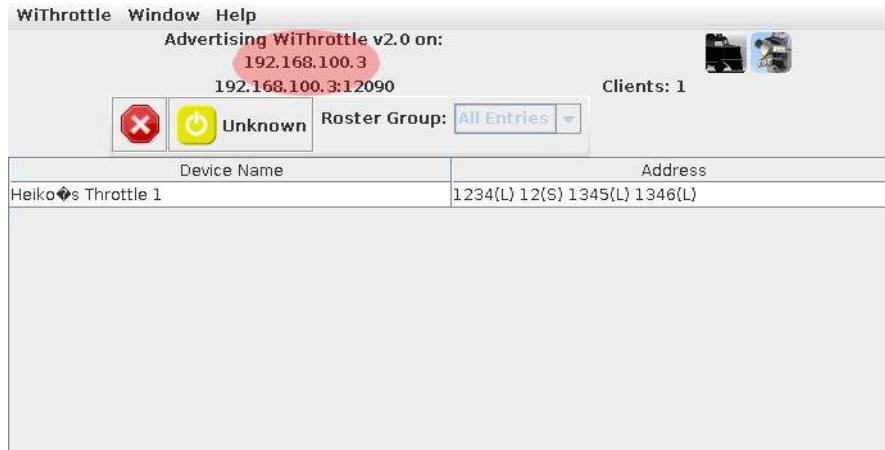

Figure 2: Screenshot of wiThrottle screen showing one throttle connected
In the second case, the throttle will change the last tuple of it’s IP address to .253 – so if the wireless network is configured with IP addresses in the *192.168.100.x*-range as highlighted in figure 2, any web browser can access the configuration at *http://192.168.100.253*.
**Throttle name:** This is a free-form identification string of the throttle. It shows up in the wiThrottle window of JMRI as shown in figure 2 and can be used to identify the throttle during configuration.
Next the server settings can be found. The correct settings can be read from the JMRI withrottle server screen, as highlighted in figure 2. Normally the port does not need to be changed, as 12090 is the default setting.